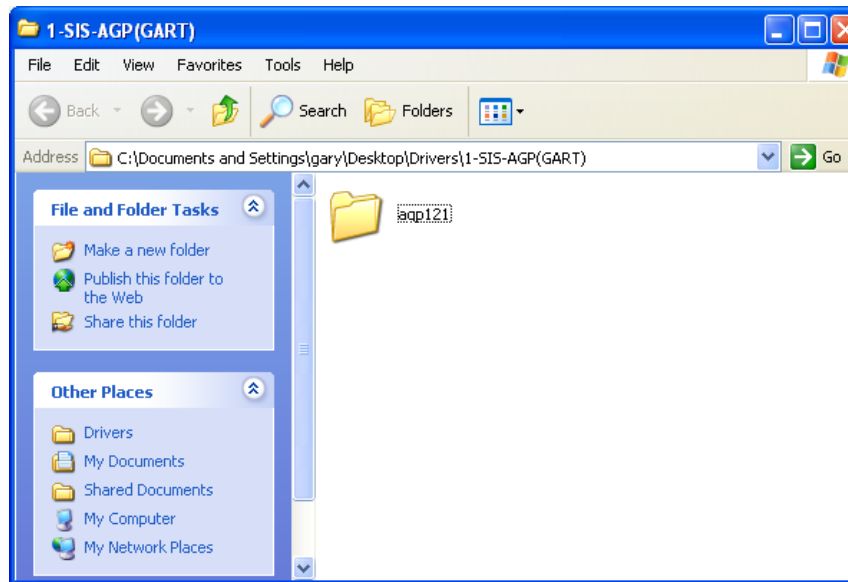

Figure 7-3: AGP Driver Directory Icon
Step 2: The window in **Figure 7-3** appears.